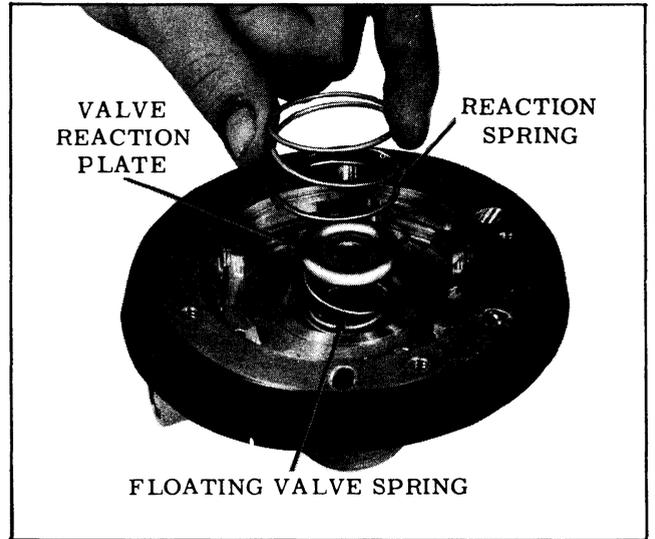

Fig. 7-29 Installing Reaction Spring
4. Snap floating valve diaphragm spring over valve spring retainer. Nest valve reaction plate over diaphragm spring. Seat reaction spring in recess of valve diaphragm retainer ring. (See Fig. 7-29)